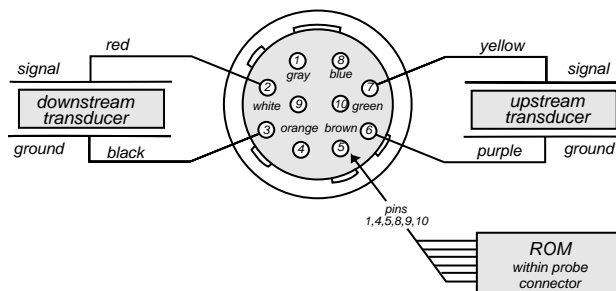

Fig. a.1:
Figure a.1 presents a connection diagram for perivascular probes for use with the T106/T206 flowmeters. The "ROM" is a computer memory chip, mounted within the probe connector, which contains probe identification information such as probe size and style, its signal drive requirements, received signal strength and flow calibration factor. The transducer cabling consists of two twisted-pair wires between the connector and ultrasonic transducers within the flowsensor body.
Fig. a.1: Probe wiring diagram for 10-pin self-aligning connector (*pin-side view of male connector*). Probes wired for other Transonic flowmeter models use the same connector, but are wired differently internally to avoid false readings.
- a. **PROBE WIRING DATA:** Figure a.1 presents a connection diagram for sterile tubing (*clamp-on*) flowsensors for use with the T106/T206 meters. The "ROM" is a computer memory chip, mounted within the probe connector, which contains probe identification information such as probe size and style, its signal drive requirements, received signal strength and flow calibration factor. The transducer cabling consists of two twisted-pair wires between the connector and ultrasonic transducers within the flowsensor body.